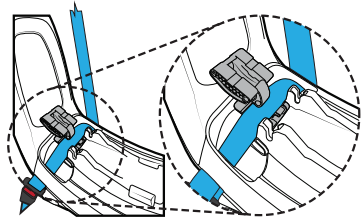

Figure 6
Step 8: Ensure the seatbelt is routed as per Figure 6.